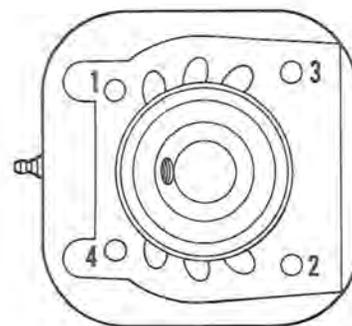

Figure 8-18
- g. Install cylinders, using new gaskets. Use a hinged ring compressor to install pistons in cylinders. Tighten nuts in correct sequence to specified torque (see Figure 8-18). NOTE: Retorque cylinder screws after motor test has been completed and motor has cooled off.